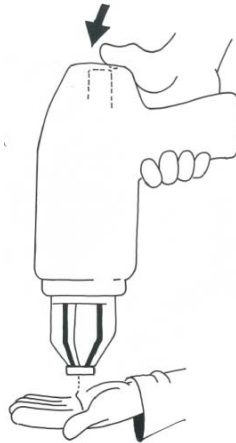

Figure 7(a)
11. Hold the gun in a vertical position then depress the ejector button to expel the remaining fuse wire. Catch the wire in your hand to ensure it has been ejected, as illustrated below in figure 7\(a\).